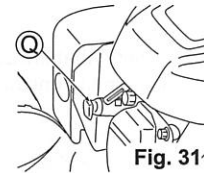

Fig. 31
- Remove Plug cap (Q). (See Fig. 31)